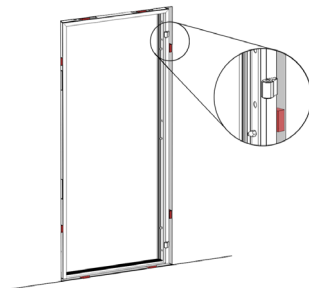

Fig. 12.
3.4. Fix the door frame with wedges in the opening, aligning the gaps with them. Wedges should preferably be installed between the door frame and the opening wall at the top and bottom (Fig. 12) in order not to distort the middle part of the door frame.